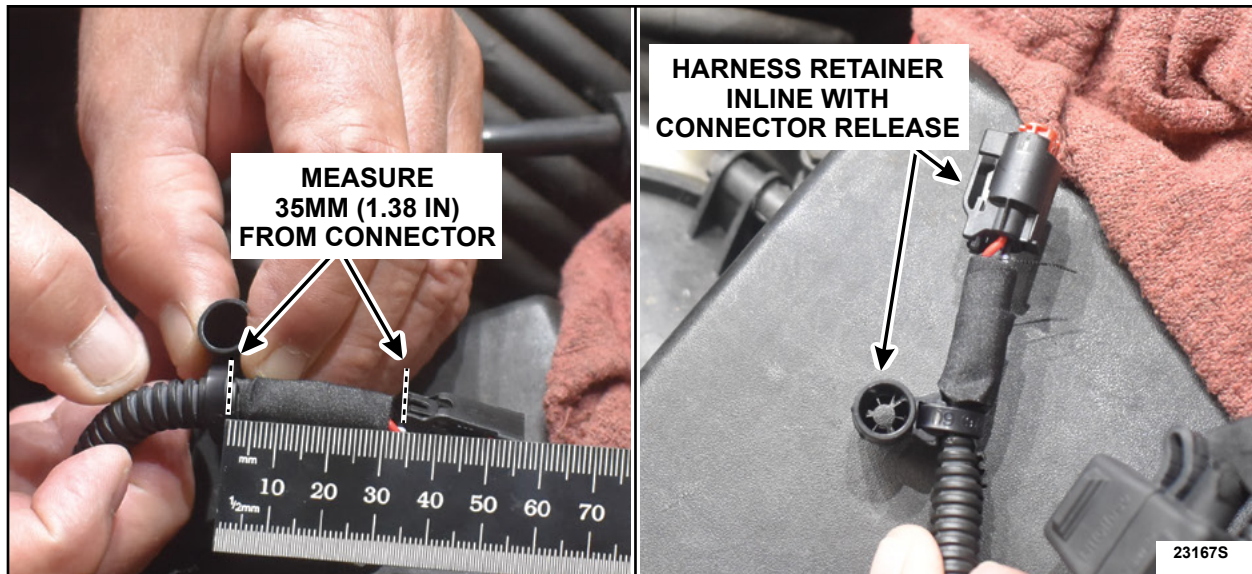

FIGURE 12
15. Using a ruler, measure 35mm (1.38 in) from the connector and loosely install the *new* stud retainer. Align the stud retainer with the connector release tab and fully install the stud retainer and remove the excess zip tie as shown in Figure 12.